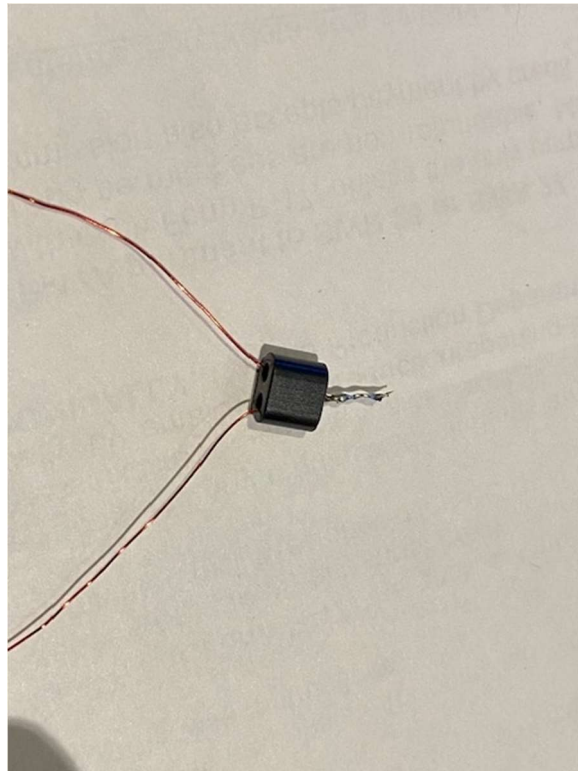

Figure 8. Soldered Legs Forming CT Inserted In B43-2403 Core.
- v. Twist the tinned ends together, solder them, and place the legs through the sides of one of the BN43-2403 cores (see Figure 8).